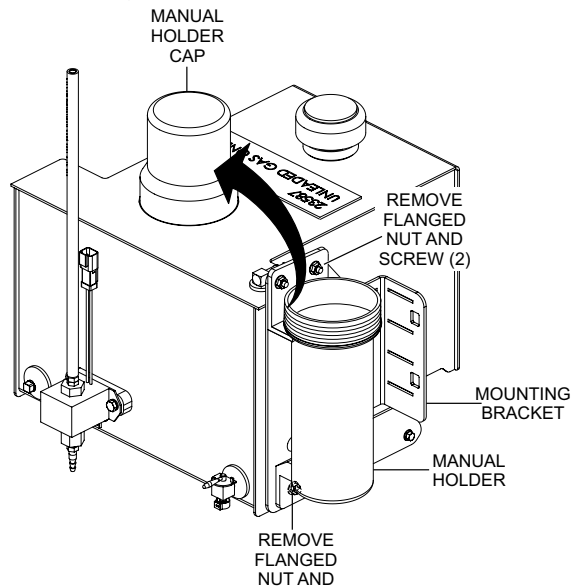
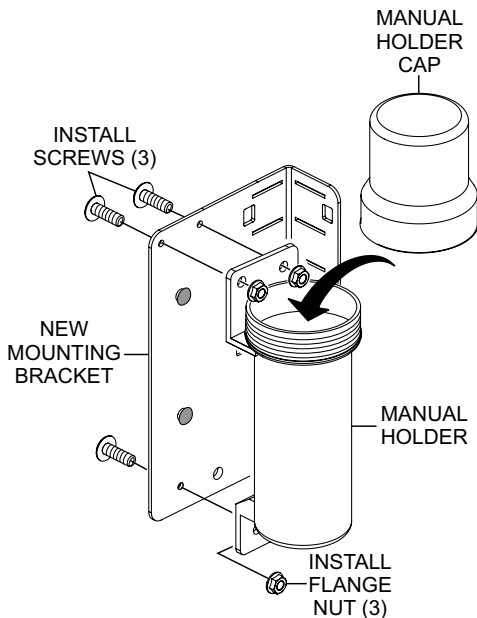

Figure 3. Manual Holder Removal
Figure 6. Manual Holder Installation
1. Unscrew the cap (Figure 3) from the manual holder. This will allow for easy access to the manual holder retaining nuts.
2. Next, remove the three flanged nuts and screws that secure the manual holder (Figure 3) to the mounting bracket.
- Reinstall manual holder (Figure 6) back onto charcoal canister bracket using the three mounting screws and flanged nuts that were removed earlier (Figure 3).